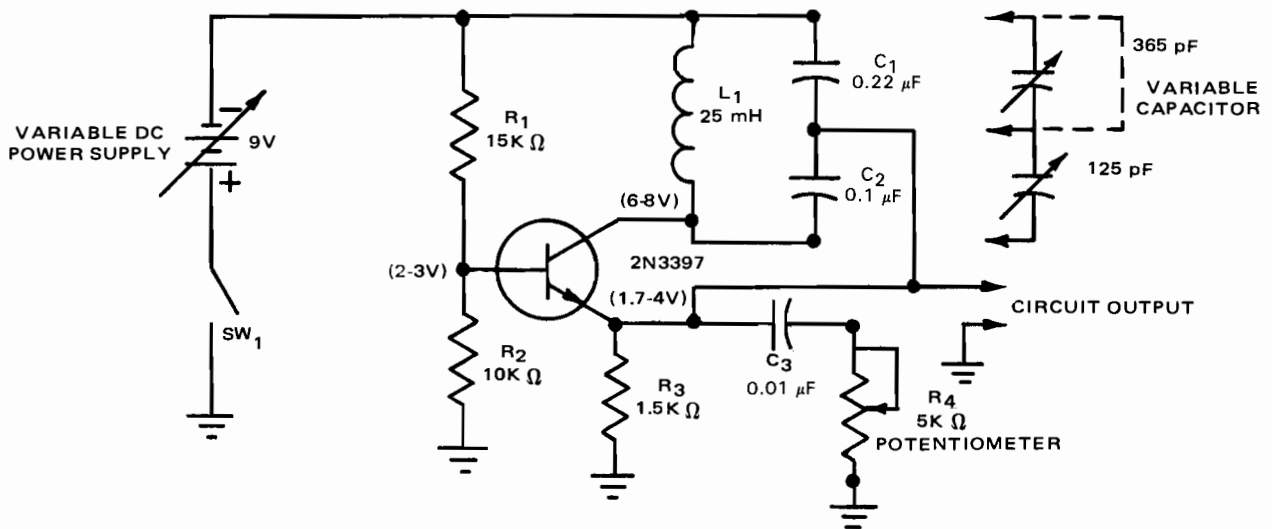

Fig. 18-3-1
1. Connect one type of Colpitts oscillator like that shown in Fig. 18-3-1. Change power supply polarity for PNP transistor.
C_1 and C_2 from circuit. Connect a two-ganged 365 pF/125 pF capacitor in place of C_1 and C_2 . See Fig. 18-3-1.